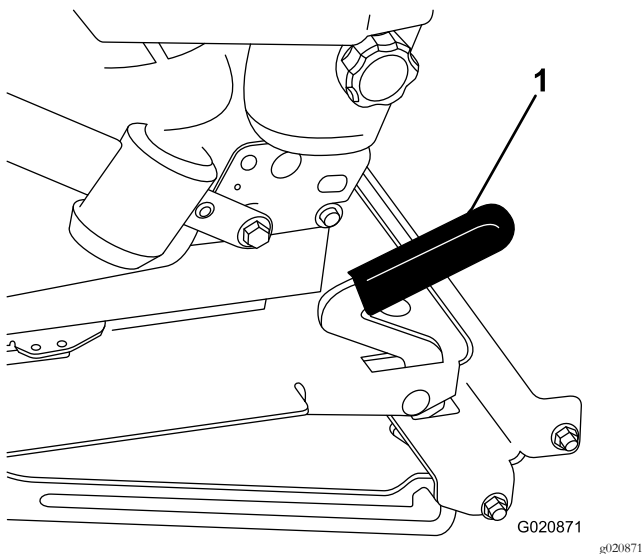

Figure 33
- Pull the seat latch lever forward and lift up to unlatch the seat (Figure 33).